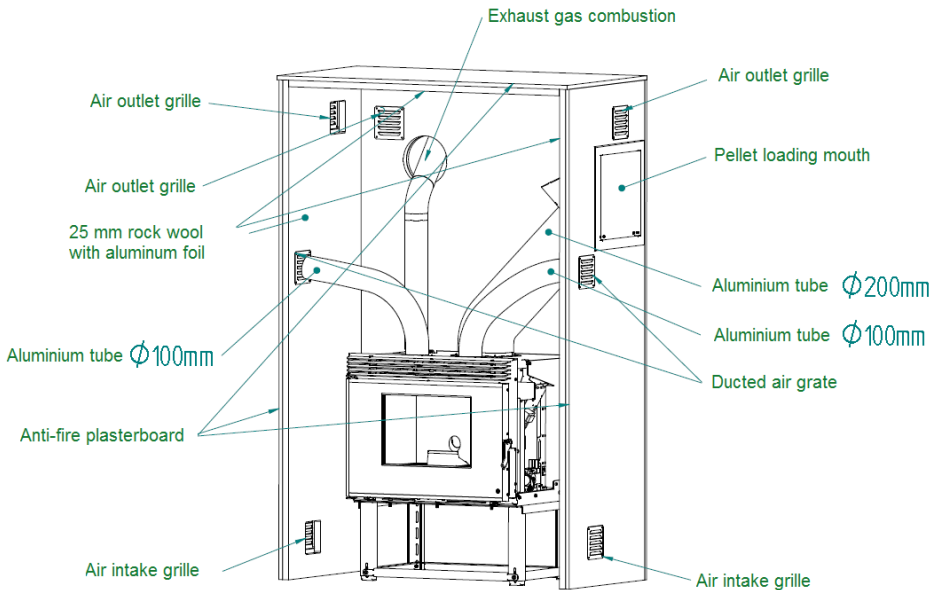

Figure 19 - Equipment installation
- In the installation example, Figure 19, it can be verified that the pipes are placed to channel the hot air outlet to the room where the insert is installed, but could be installed to carry hot air to neighbouring rooms. The maximum length of pipes without installing an air extraction box is 3-4m.